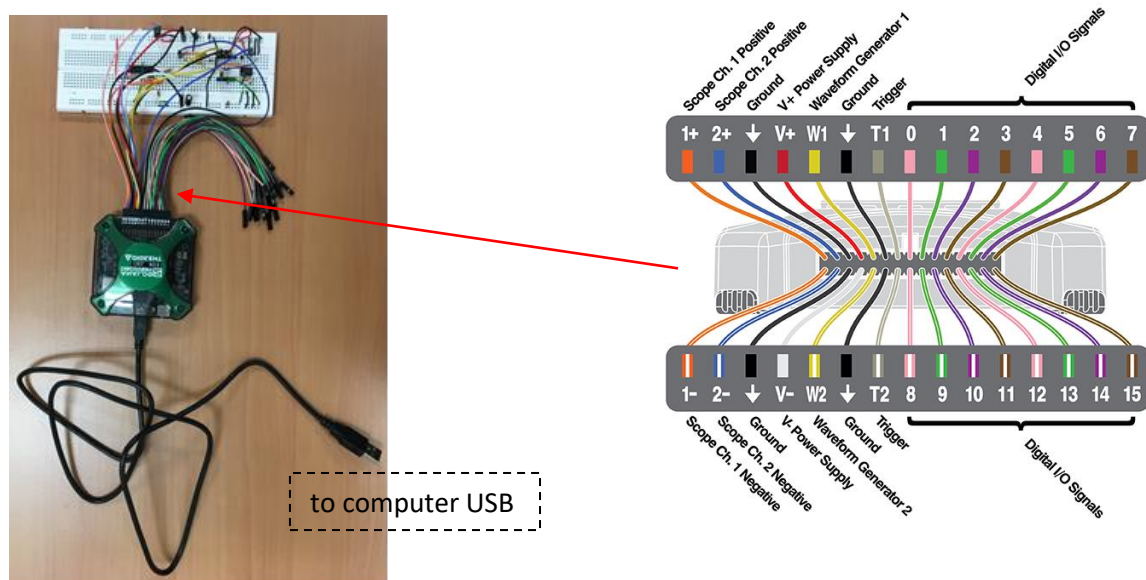

Figure 3: AD 2 connections and pinout diagram
- The portable device Analog Discovery 2 (AD2) will be used in this project. It works together with the software named Waveforms running on computer. They provide all needed lab equipment functions in this project. These functions include two signal generators, two oscilloscope channels, a spectrum analyzer, a network analyzer, a dual power supply of $\pm 5V$. Refer to Figure 3 below on the connection of AD 2 and the pinout diagram for different functions.